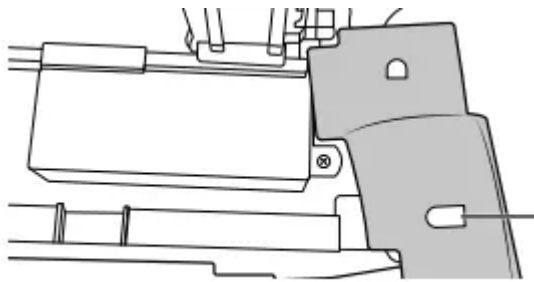

Figure: 2
■ **Attachment 2:** Use the other slit on the side shield and attach it to the hook on the front of the dishwasher. (See figure 2)